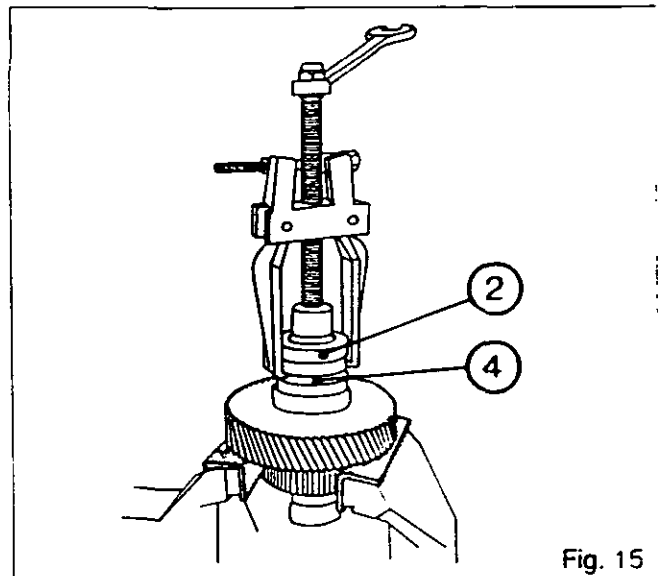

Fig. 15
51. Remove the bolts (16).
52. Remove the clutch housing (15), the inner plates (17) and the outer plates (14).
**Assembly A :** 3 inner plates, 3 outer plates and 2 spacers (28) and (29) for 3050 - 3060 - 3065 tractors.
**Assembly B :** 4 inner plates, 4 outer plates and 1 spacer (28) for 3070, 3080-3095.
53. Place the support housing (9) in a vice.
54. Remove the O-rings (3) and (6).
55. Remove the circlip (1).
56. Extract the ball bearing (2) with the sleeve (4) (Fig. 15).